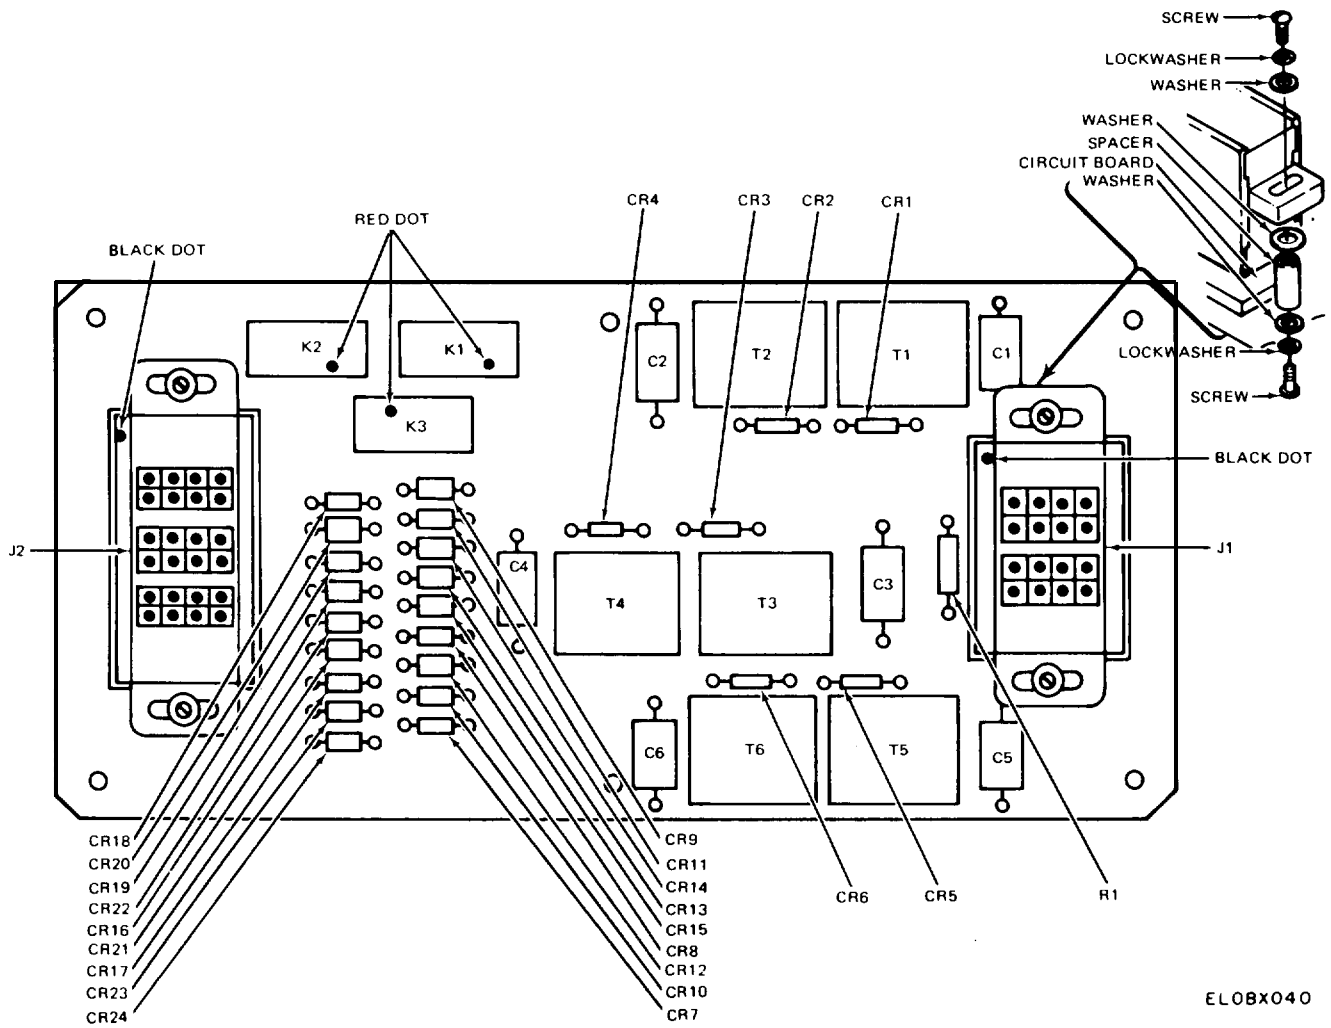

Figure 5-6. ATS circuit board assembly.
d. Further disassembly is accomplished by unsoldering connection of parts mounted to the circuit board assembly (fig. 5-6). Disassembly only to the extent required to replace a faulty part. To remove connectors J1 and J2, mounting hardware must be removed in addition to unsoldering the leads to the circuit board assembly.
(1) To remove connector J1, remove four
e. Refer to figure 5-6 to locate parts when replacement of a faulty part is found to be necessary. Parts are coated with Polyurethane, MIL-I-46058, Type PUR. It will be necessary to remove the coating when replacing a part.
*a.* Remount removed or replaced components on the circuit board assembly in the same location and orientation from which they were removed (fig. 5-6). During reassembly, use the same mounting hardware removed during disassembly (para 5-8).